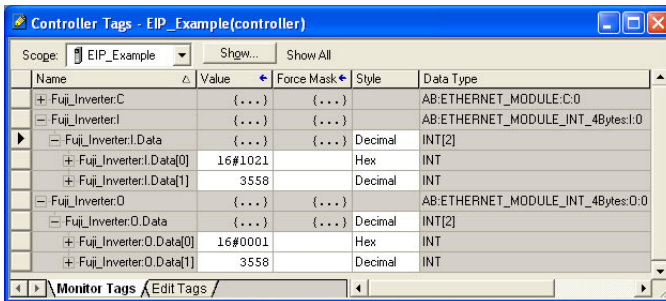

Figure 91: Controller Tags for I/O Access
- 8) By double-clicking “Controller Tags” in the project tree, it is possible to view the newly-added tags. Refer to Figure 91. The Fuji\_Inverter:C configuration tag is unused, the Fuji\_Inverter:I tag allows viewing of the input data, and the Fuji\_Inverter:O tag allows modification of the output data. These tags will be synchronized with the inverter at whatever rate was established for the module's RPI.
We can directly interact with these tags in order to control and monitor the inverter. In Figure 91, for example, we can see that the first 16-bit word of output data (Fuji\_Inverter.O.Data[0]) has been set to a hexadecimal value of 0x0001. Referring back to Figure 43, we can see that the first element of the consumed register configuration references register 1799, which is the inverter's operation command register. A value of 0x0001, therefore, means that the FWD (run forward) bit has been turned ON.